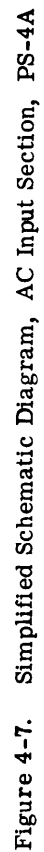
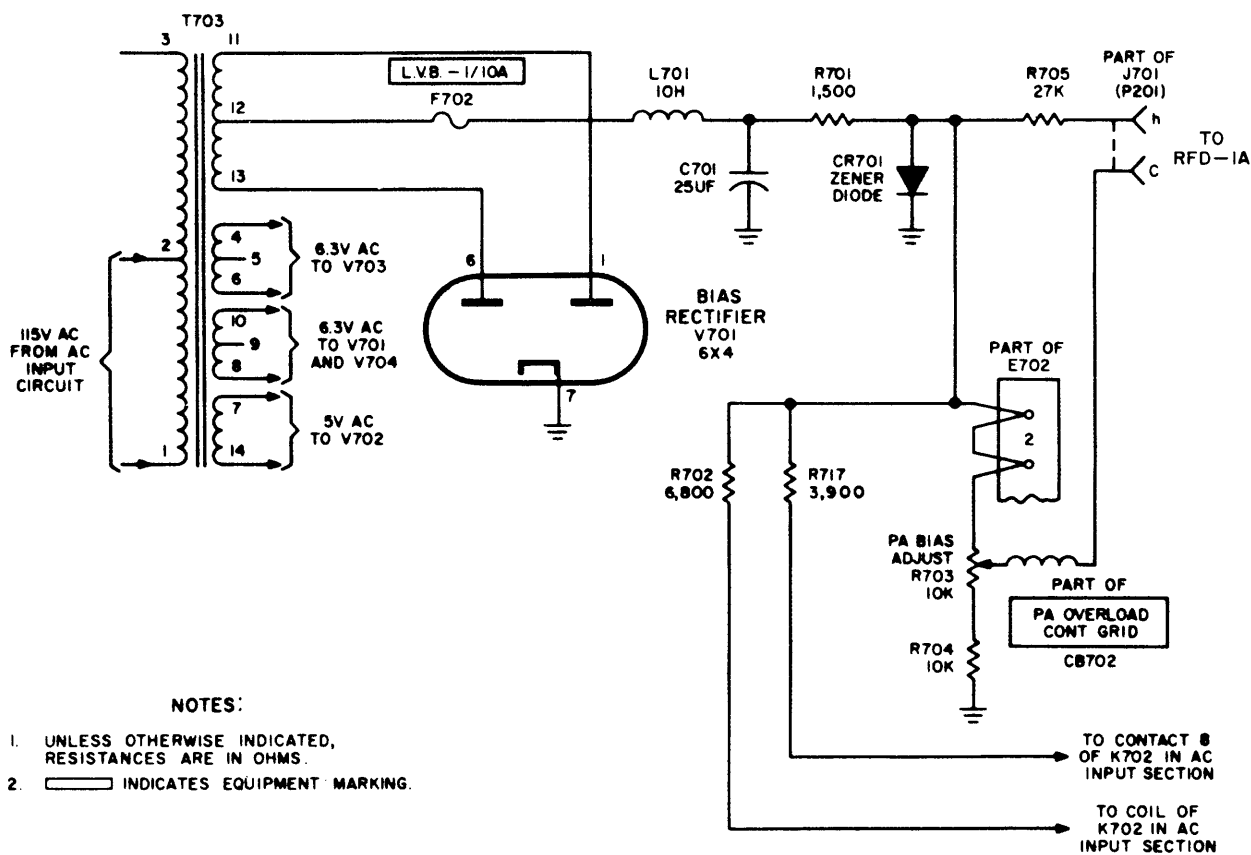

Figure 4-7. Simplified Schematic Diagram, AC Input Section, PS-4A
Figure 4-9. Simplified Schematic Diagram, Bias Power Supply Section, PS-4A
The complete schematic for PS-4A is shown in figure 8-2. Simplified schematics for the a-c input section, mid-voltage power supply and bias power supply are shown in figures 4-7, 4-8 and 4-9, respectively, and are described in the following paragraphs. Refer to section 7 (Parts List) for functions of individual components.
b. AC INPUT SECTION (See figure 4-7).
(1) Primary power (115 VAC) is applied to the PS-4A unit through jack J703. With MAIN POWER circuit breaker CB701 closed, primary power is applied between terminals 115 and 0 of autotransformer T701. PA FIL PRI ADJUST switch S701 is set to that position which most closely produces 115 VAC from T701. The output of T701 supplies operating voltage to MAIN POWER lamp I701, to the bias power supply, and to filament transformer T702 through LINE 5A fuse F701. Operating voltage for a blower motor located in the RFD-1A Amplifier unit is routed through BLOWER 2A fuse F703 to pin F of J701 and from terminal 0 of T701 to pin K of J701. Filament voltage, developed across the secondary of T702, is applied to pins J, O, U, V, P, R and S of J701. A-c voltage is also tapped off the primary of T702 and applied to terminals 1 and 2 of E701 for external use.
(1) A-c voltage is applied to the primary of transformer T704 from the a-c input section (figure 4-7). The voltage induced in the secondary of T704 (figure 4-8) is applied to the plates of mid-voltage rectifier V702. The rectified output of V702 (500 VDC) is applied to the plates of series regulator V703 through MV B+ 1/4A, fuse F704 and an LC filter network (L702 and C703). The rectified output of V702 is also applied to the plate and screen grid of control amplifier V704.
(2) During normal operation, the 500-volt output of V703 series regulator is taken from the cathodes and applied to pin d of jack J701 through R714 and closed contacts 6 and 7 of K703. The voltage on the output side of R714 is maintained at 225 VDC by PA
d. BIAS POWER SUPPLY (See figure 4-9).
(1) 115 VAC is applied to the primary of transformer T703 from the a-c input circuit (figure 4-7). The secondary of T703 has four windings; three windings provide filament voltage for the tubes in the mid-voltage power supply. The fourth winding provides plate voltage for bias rectifier V701 (figure 4-9).
(2) The rectified output of V701 is taken off pin 12 of T703 and applied, through LV B- 1/10A fuse F702, to an LC filter network (L701 and C701). The -150 VDC output of the filter network is applied to pin h of J701 jack through R701 and R705. Voltage is regulated by Zener diode CR701. A portion of this voltage is tapped off R703, PA BIAS ADJ resistor, and applied to pin C of J701 via the coil of PA OVERLOAD CONT GRID circuit breaker CB702.
(3) The -150 VDC output is also routed to the coil and contact 8 of relay K702 via resistors R702 and R717, respectively (see figure 4-7).